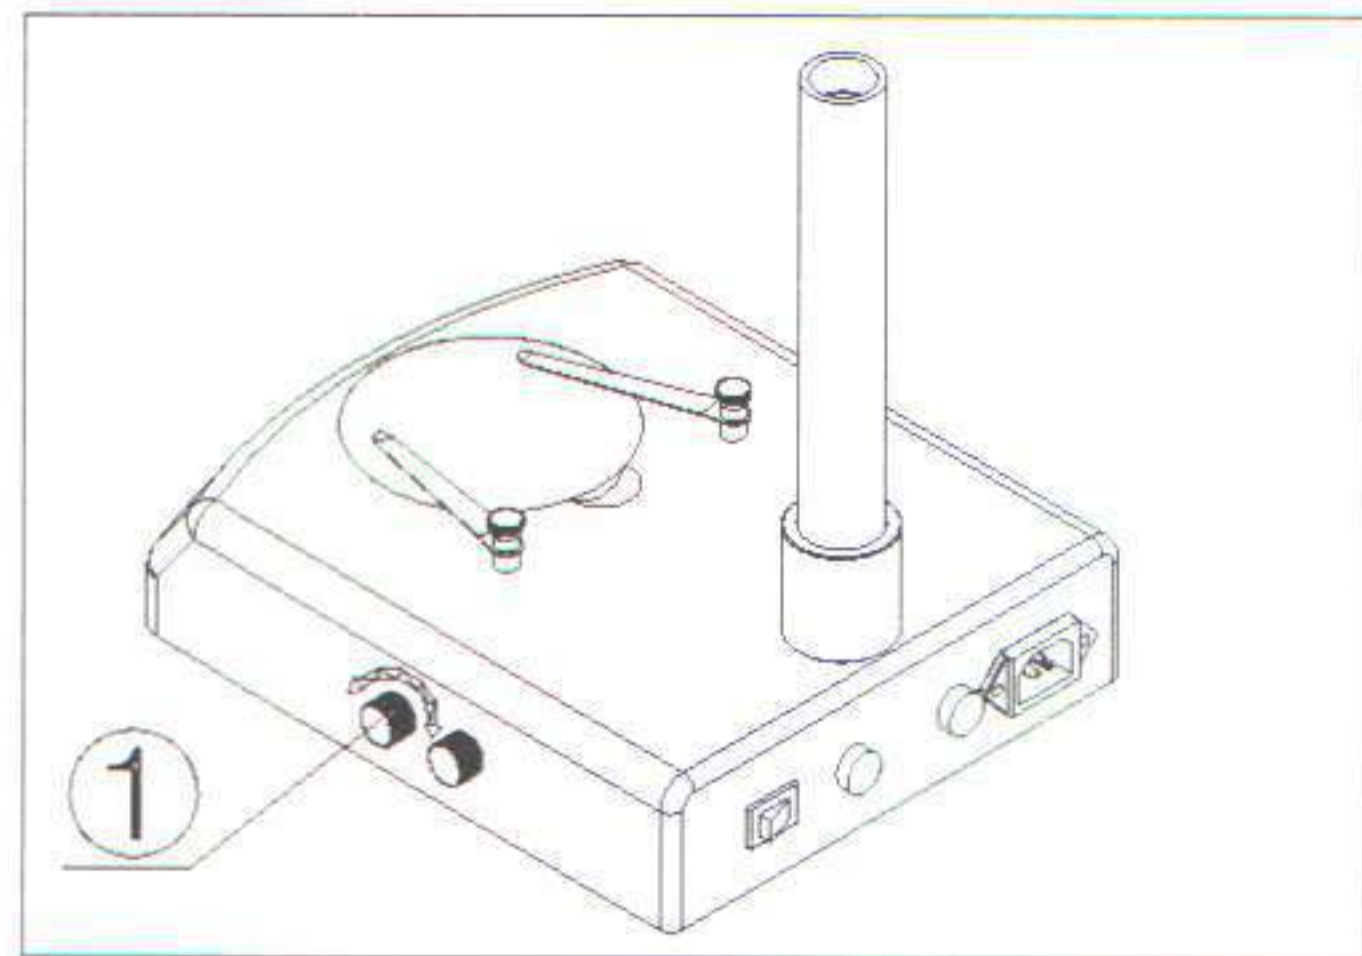

Fig. 10
1) Turn the adjustable light knob ① according to the sign marked on the base, along the clockwise the brightness will be added, otherwise it will be weakened. (Fig.10)